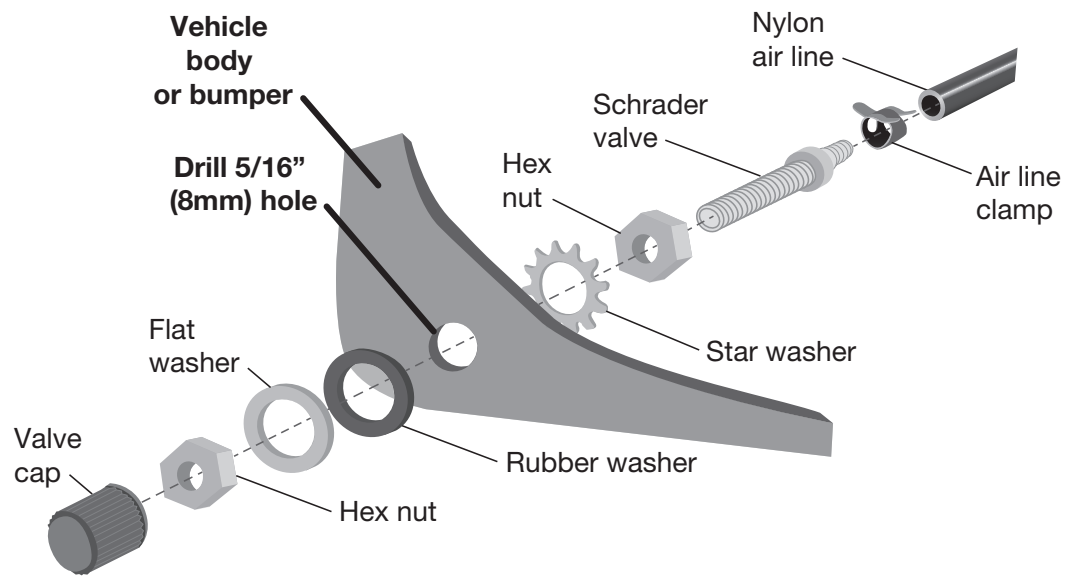

Fig. 18
8. Drill a 5/16" (8mm) hole for the Schrader valve (L) and mount as shown (Fig. 18). Install the air line on the Schrader valve first. The rubber washer (H) serves as an outside weather seal.